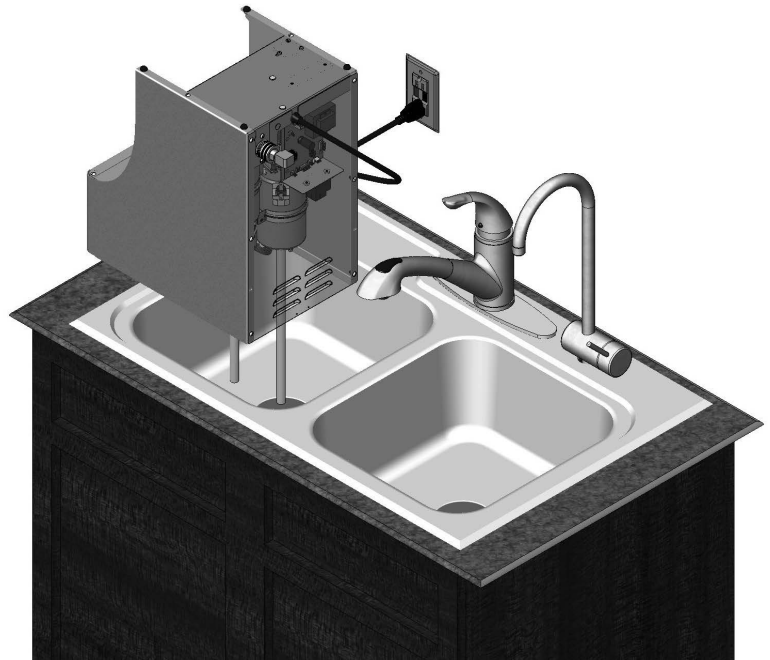

FIG 9-2
10. Turn brewer upside down over sink during this procedure! FIG. 9-2